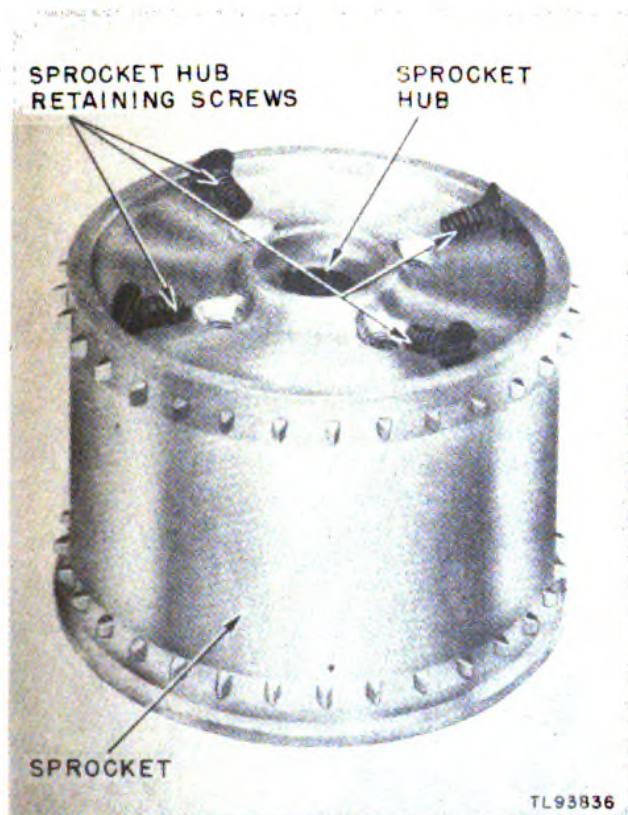

Figure 129. Sprocket, showing sprocket hub partially removed.
69. Replacing Film Sprocket (fig. 129)